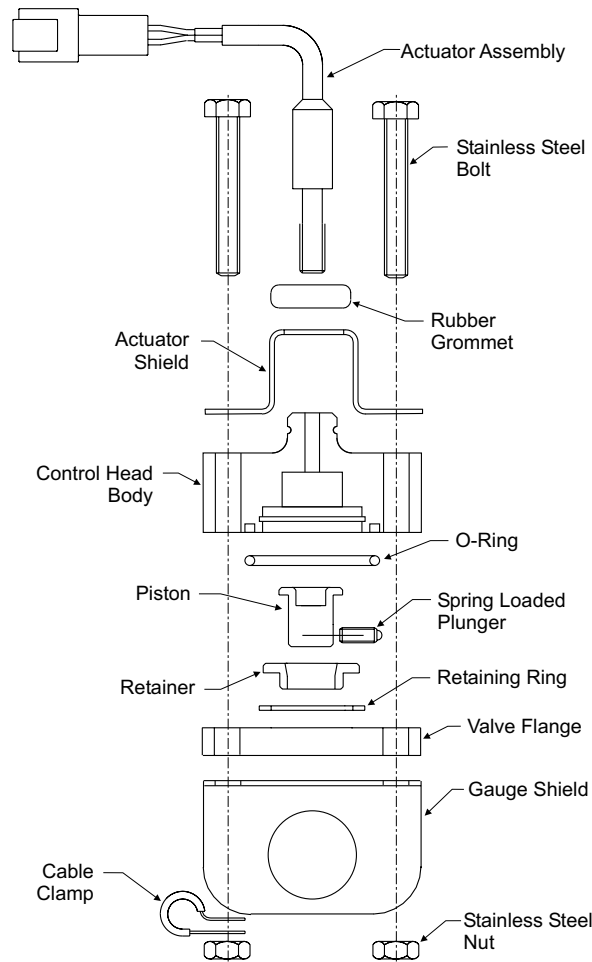

FIGURE 35 - CONTROL HEAD (EXPLODED VIEW)
2. Verify proper operation of the electrically operated control head as follows (figure 35):